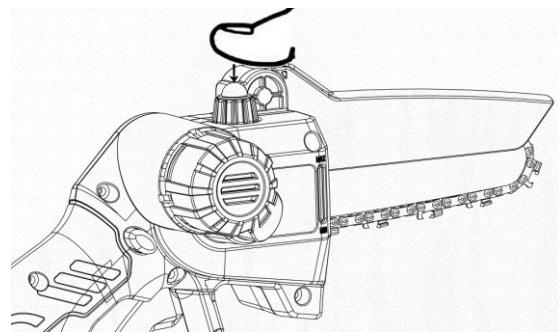

Fig. 4b
- With allowing the chainsaw running, press the bulb pump cap for 3-4 times. See Fig 4b.